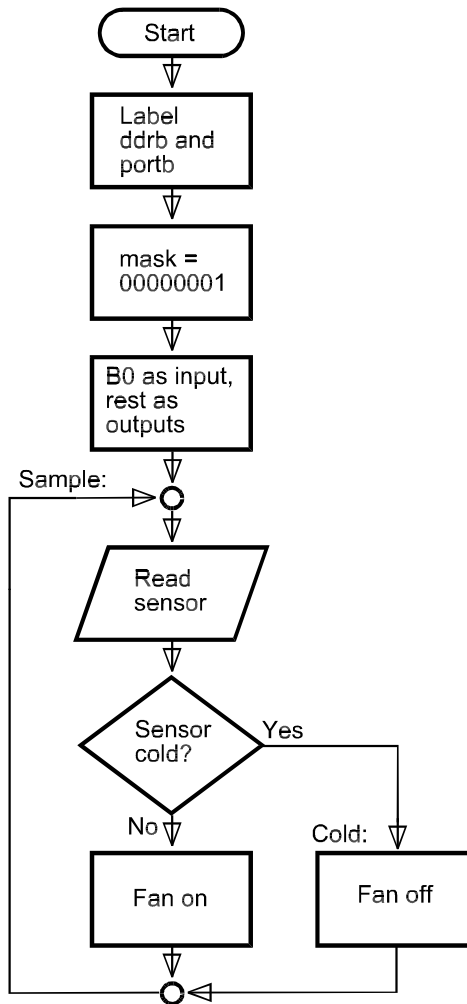

Figure 11.3 The alternative states of the cooling system are evident in the flowchart.
Fig. 11.3 illustrates the cooler program of Chapter 10. The structure of this is different from the delay program. It has a single loop but the decision box leads the CPU one way or the other, depending on the temperature of the sensor. Note that there is no 'End' terminal in this program. It runs indefinitely (for ever).
- **Iteration:** the program has a *loop*. The loop may continue indefinitely (Figs. 11.3 and 11.7), or until some condition is true (Figs. 11.2 and 11.6).